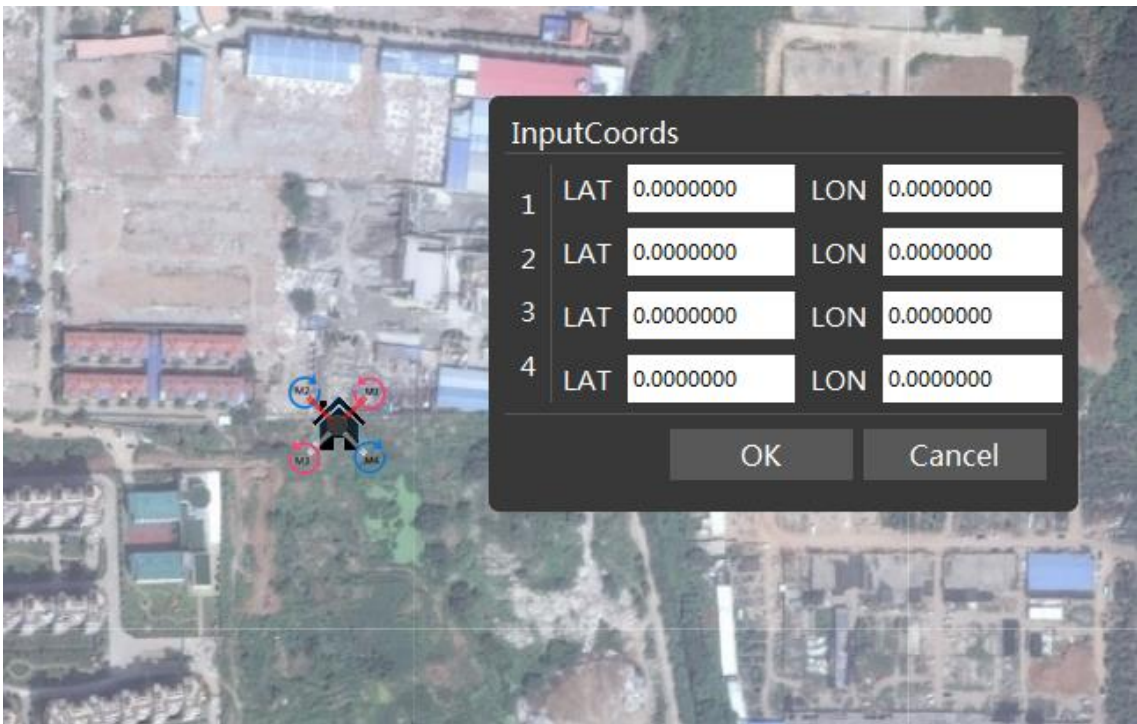

Figure 8 Region Set 2
- Right click the map, and then select "enter coordinates" in menu popping up, as shown in Figure 8. Enter top point longitude and latitude in the window, rounded to 7 decimals. Longitude scope is -180 to 180, latitude range is -90-90.